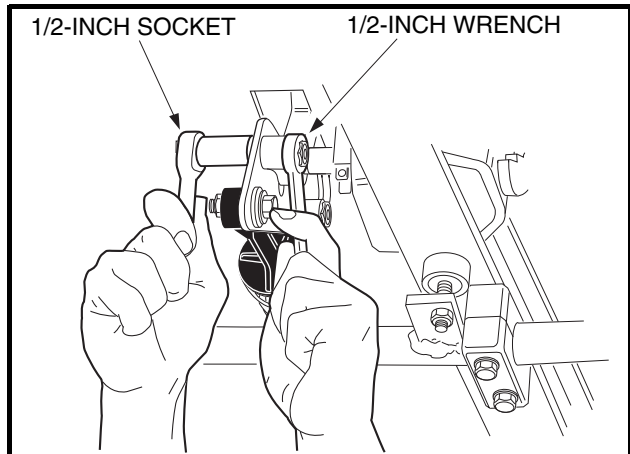

**Figure 5-26 Ratchet/Pawl Tooth Engagement**
- 3.4. With the park brake locked, make sure at least 75% of ratchet tooth length engages the pawl (**Figure 5-26, Page 5-18**). Tooth engagement should be between the two lines marked on the pawl.